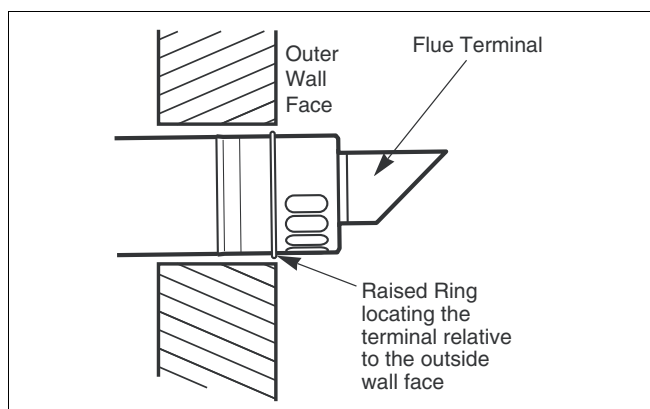

Fig. 16 Flue terminal position
- Mark of the lengths shown onto the ducts and cut the length. The cuts must be square and free from burrs. Terminal assembly outer (air) duct - L-70 mm, inner (flue) duct - L-50 mm. The measurement is made from the ridge at the terminal indicating the outer face of the wall. Refer to figure 16.